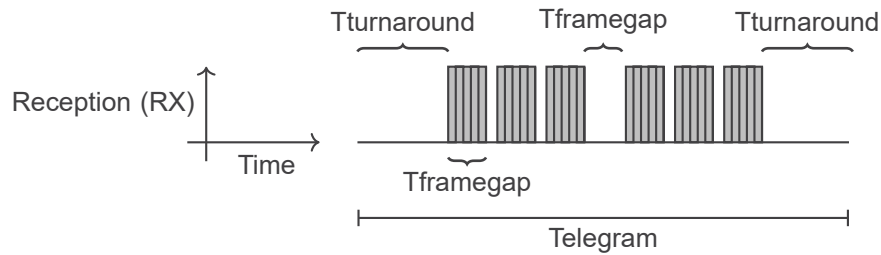

Figure 4.3: BACnet data reception
- **Reception (RX):** Maximum time between bytes ($T_{framegap}$) is of 20-bit times, and the minimum time between frames ($T_{turnaround}$) after the last byte stop bit is of 40-bit times, according to figure 4.3.
- **Transmission (TX):** RTS signal must be disabled after the end of the stop bit time ($T_{postdrive}$), which is of 15-bit times.